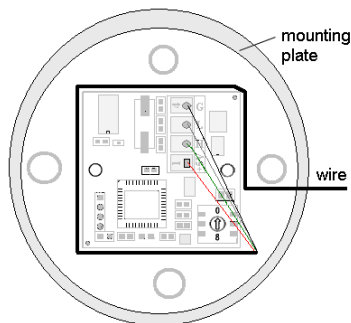

Figure 41: Wire Around Sensor Board
5. Route cable around the sensor board (**Figure 41**) and then reassemble the sensor enclosure.